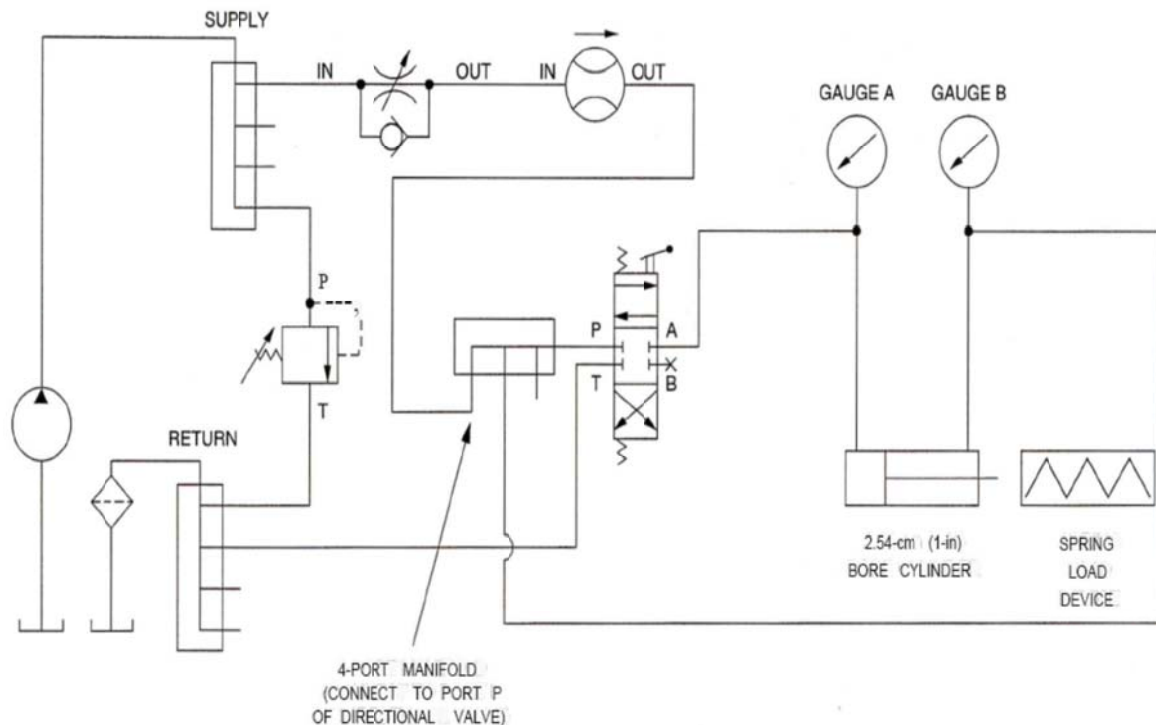

Fig.1 Cylinder in a regenerative circuit.
- Connect the circuit shown in Figure 1. In this circuit, the Flow Control Valve will be used to reduce the flow into the circuit so the cylinder speed is easier to time.
- Change your circuit into a regenerative circuit. To do so, disconnect the rod end of the cylinder from port B of the directional valve, then connect the rod end to the 4-port manifold installed on port P of the directional valve, as shown in Figure 1.
- Disconnect the 2.54-cm (1-in) bore cylinder from the circuit. Remove the cylinder from its adapter by unscrewing its retaining ring. Make sure the cylinder tip (bullet) is removed from the cylinder rod end. Screw the cylinder into the Loading Device. Then, reconnect the cylinder into the circuit as shown in-Figure 1.